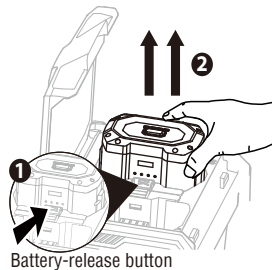

Fig. 5
2. To detach the battery pack, depress the battery-release button to disengage the battery from the latch (1, Fig. 5)
3. Lift it out of the compartment. (2, Fig. 5).